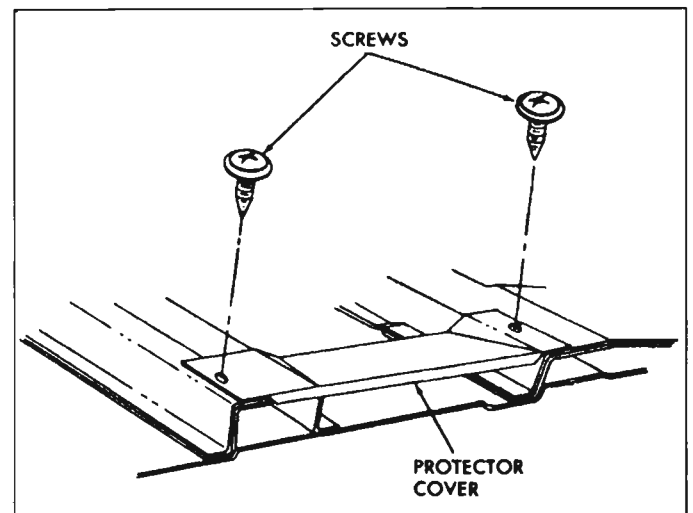

Fig. 10-74—Front Seat Side Protector Cover
2. Remove screws securing cover to floor pan (fig. 10-74) and remove cover.